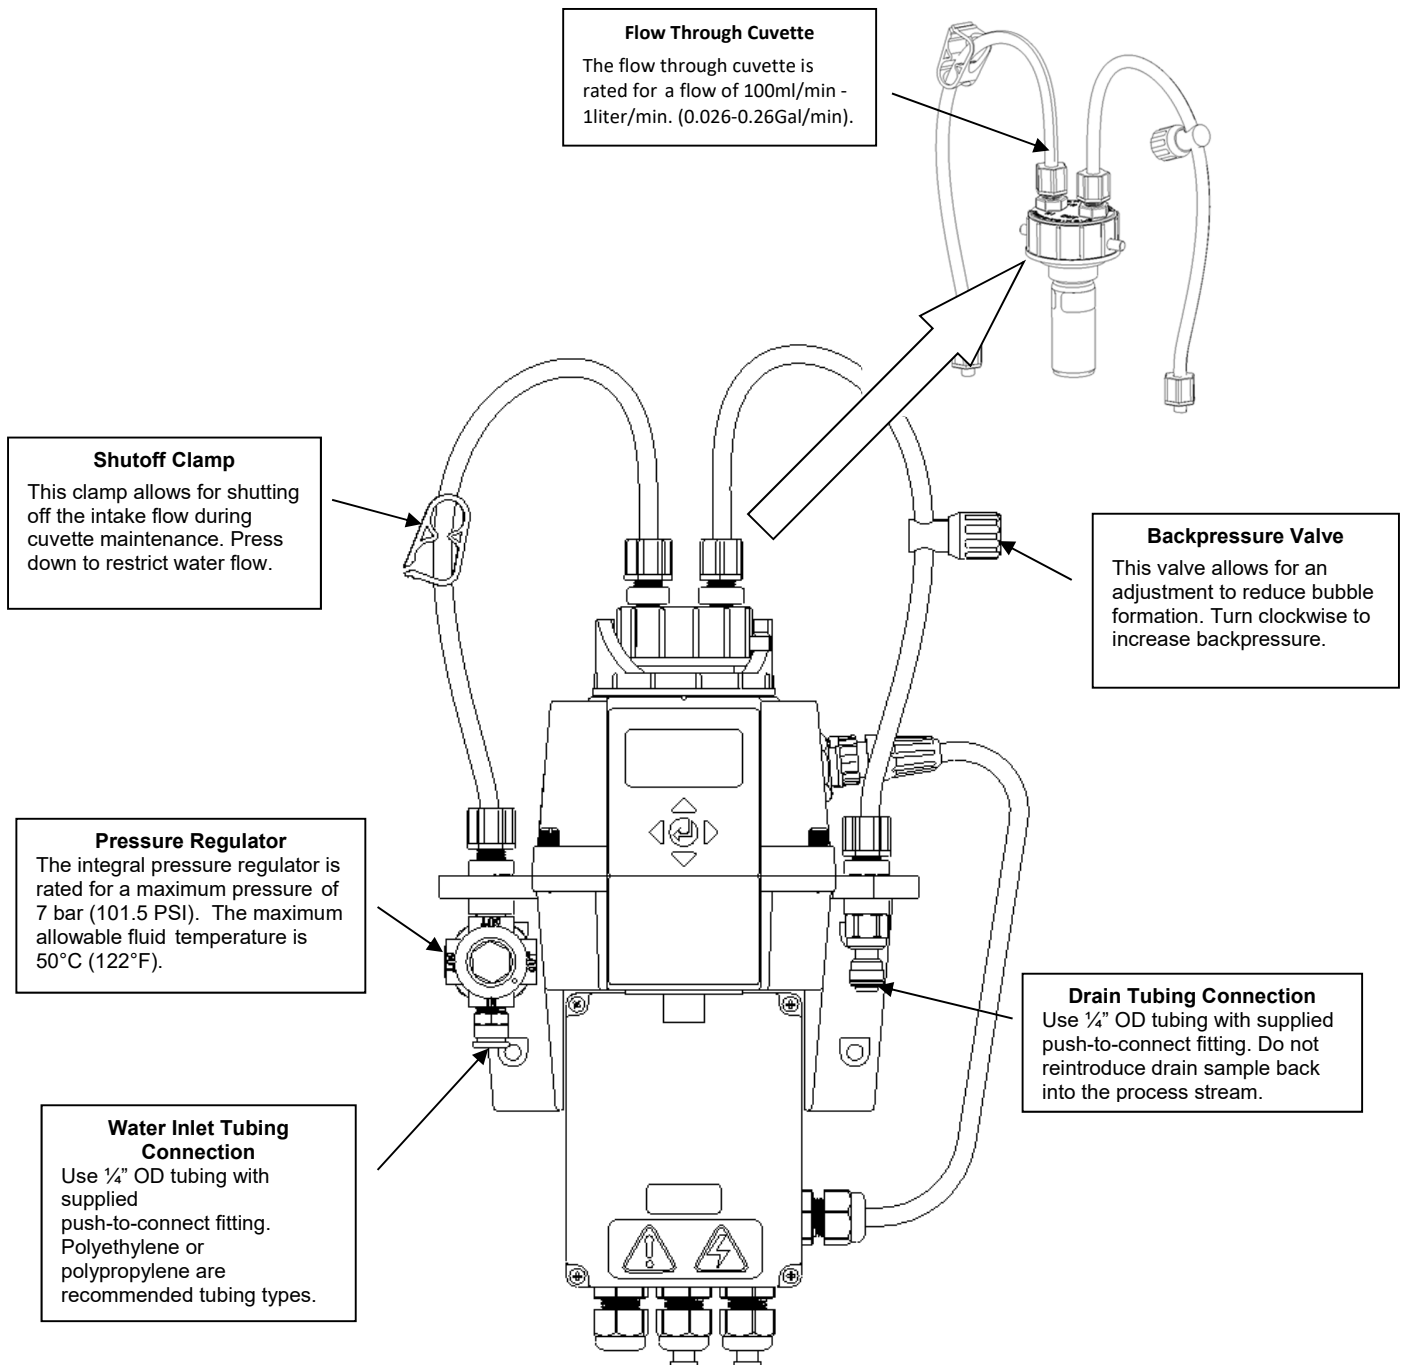

Figure 4: Instrument Parts Identification
4. Push the tube into the Quick-Connect fitting on the right facing side of the Turb PLUS 2000, as shown in Figure 4.
4. Push the tube into the Quick-Connect fitting on the left facing side of the Turb PLUS 2000, as shown in Figure 4.